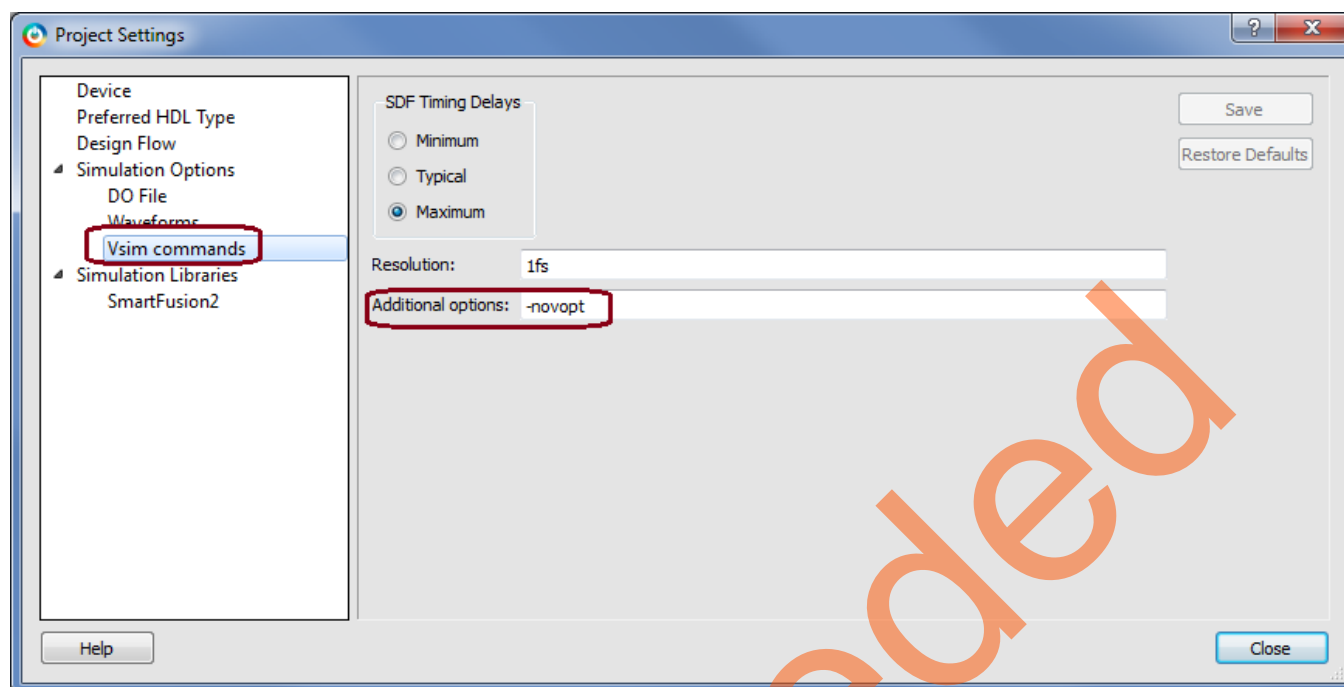

Figure 42.Project Settings – Specifying **-novopt** Simulation Option
- (b) Select **Vsim commands** under **Simulation Options**. Add the -novopt option into the **Additional options** field, as shown in Figure 42. The -novopt option disables the automatic design optimization run.